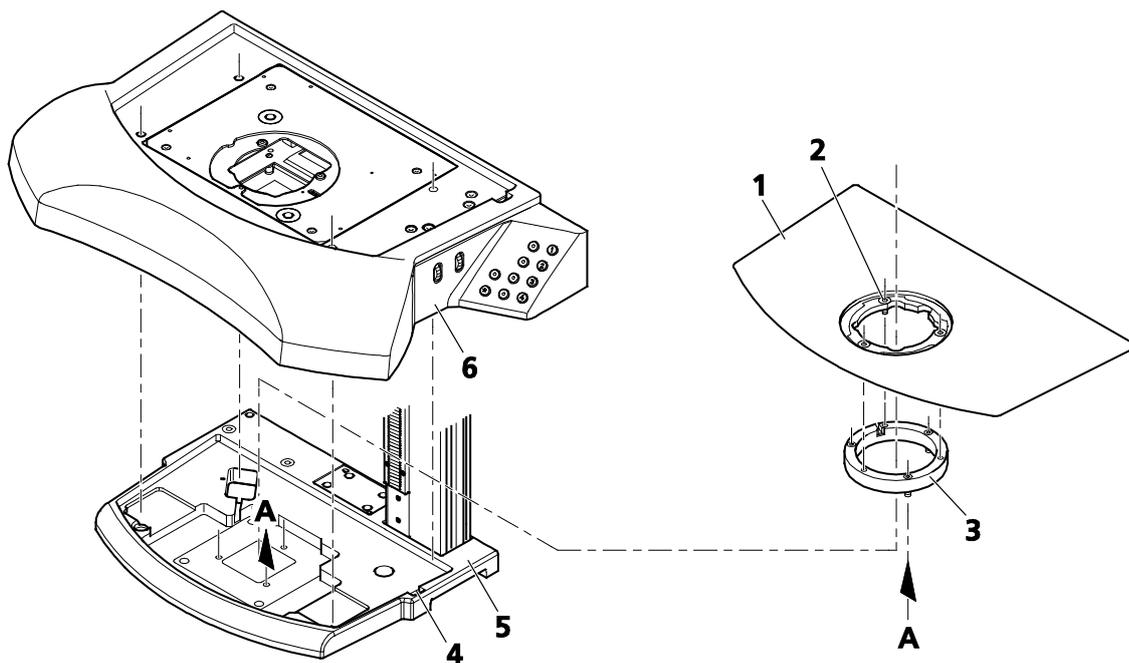

Fig. 2 Mounting transillumination top 450 mot.
- Remove the base insert plate (Fig. 2/1). To do this loosen the short socket head screws (Fig. 2/2), lift the insert plate (use recessed grip (Fig. 2/4) on the right edge of stand base for the purpose) and lift securely with both hands.
- Loosen the three socket head screws (SW 3) in the adapter ring (Fig. 2/3) using a ball-headed screwdriver and remove the adapter ring.
- Mount the transillumination top 450 mot. (Fig. 2/6) on the base plate (Fig. 2/5).